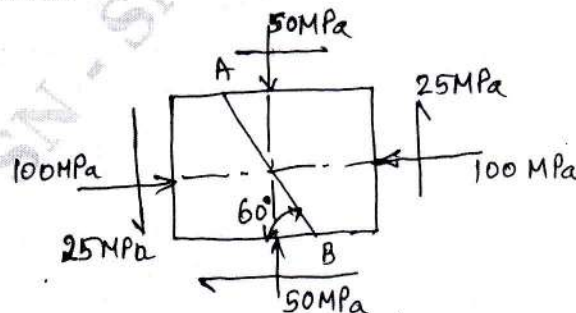

Fig Q3(a)
- 3 a. A machine components to subjected to the stress as shown in Fig Q3(a). Find the normal and shearing stresses on the section AB inclined at an angle of 60° with X-X axis. Also find the resultant stress in the section.